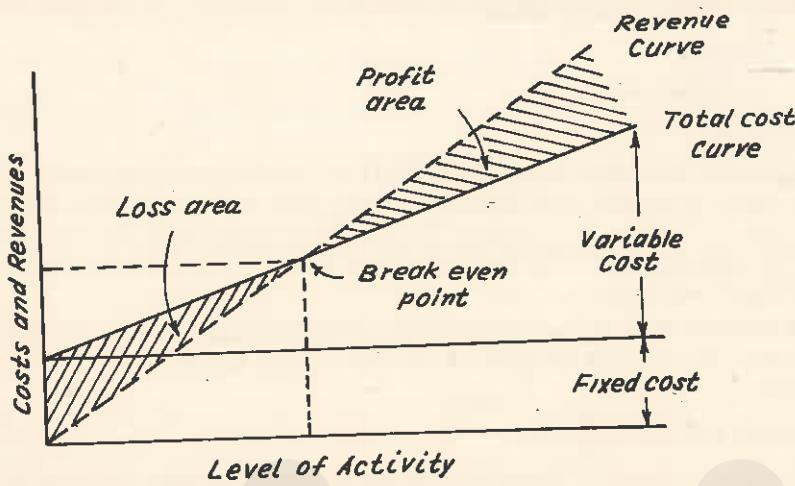

Fig. 18.2. A Break-even Chart.
- By adding graphically **variable cost** to the **fixed cost** for different levels of activity (e.g. number of goods produced), a **total cost curve** can be drawn. If a **revenue curve** is super-imposed on the same graph (Fig. 18.2) the result is the **break-even chart** which depicts the profits/loss picture for several possible cost-revenue situations at different levels of activity.